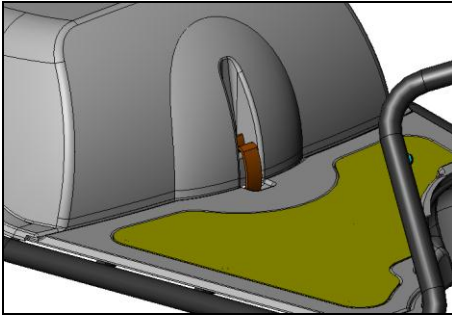

Figure 20
- b. Open **Batteries Cover** - (See Fig. 20).